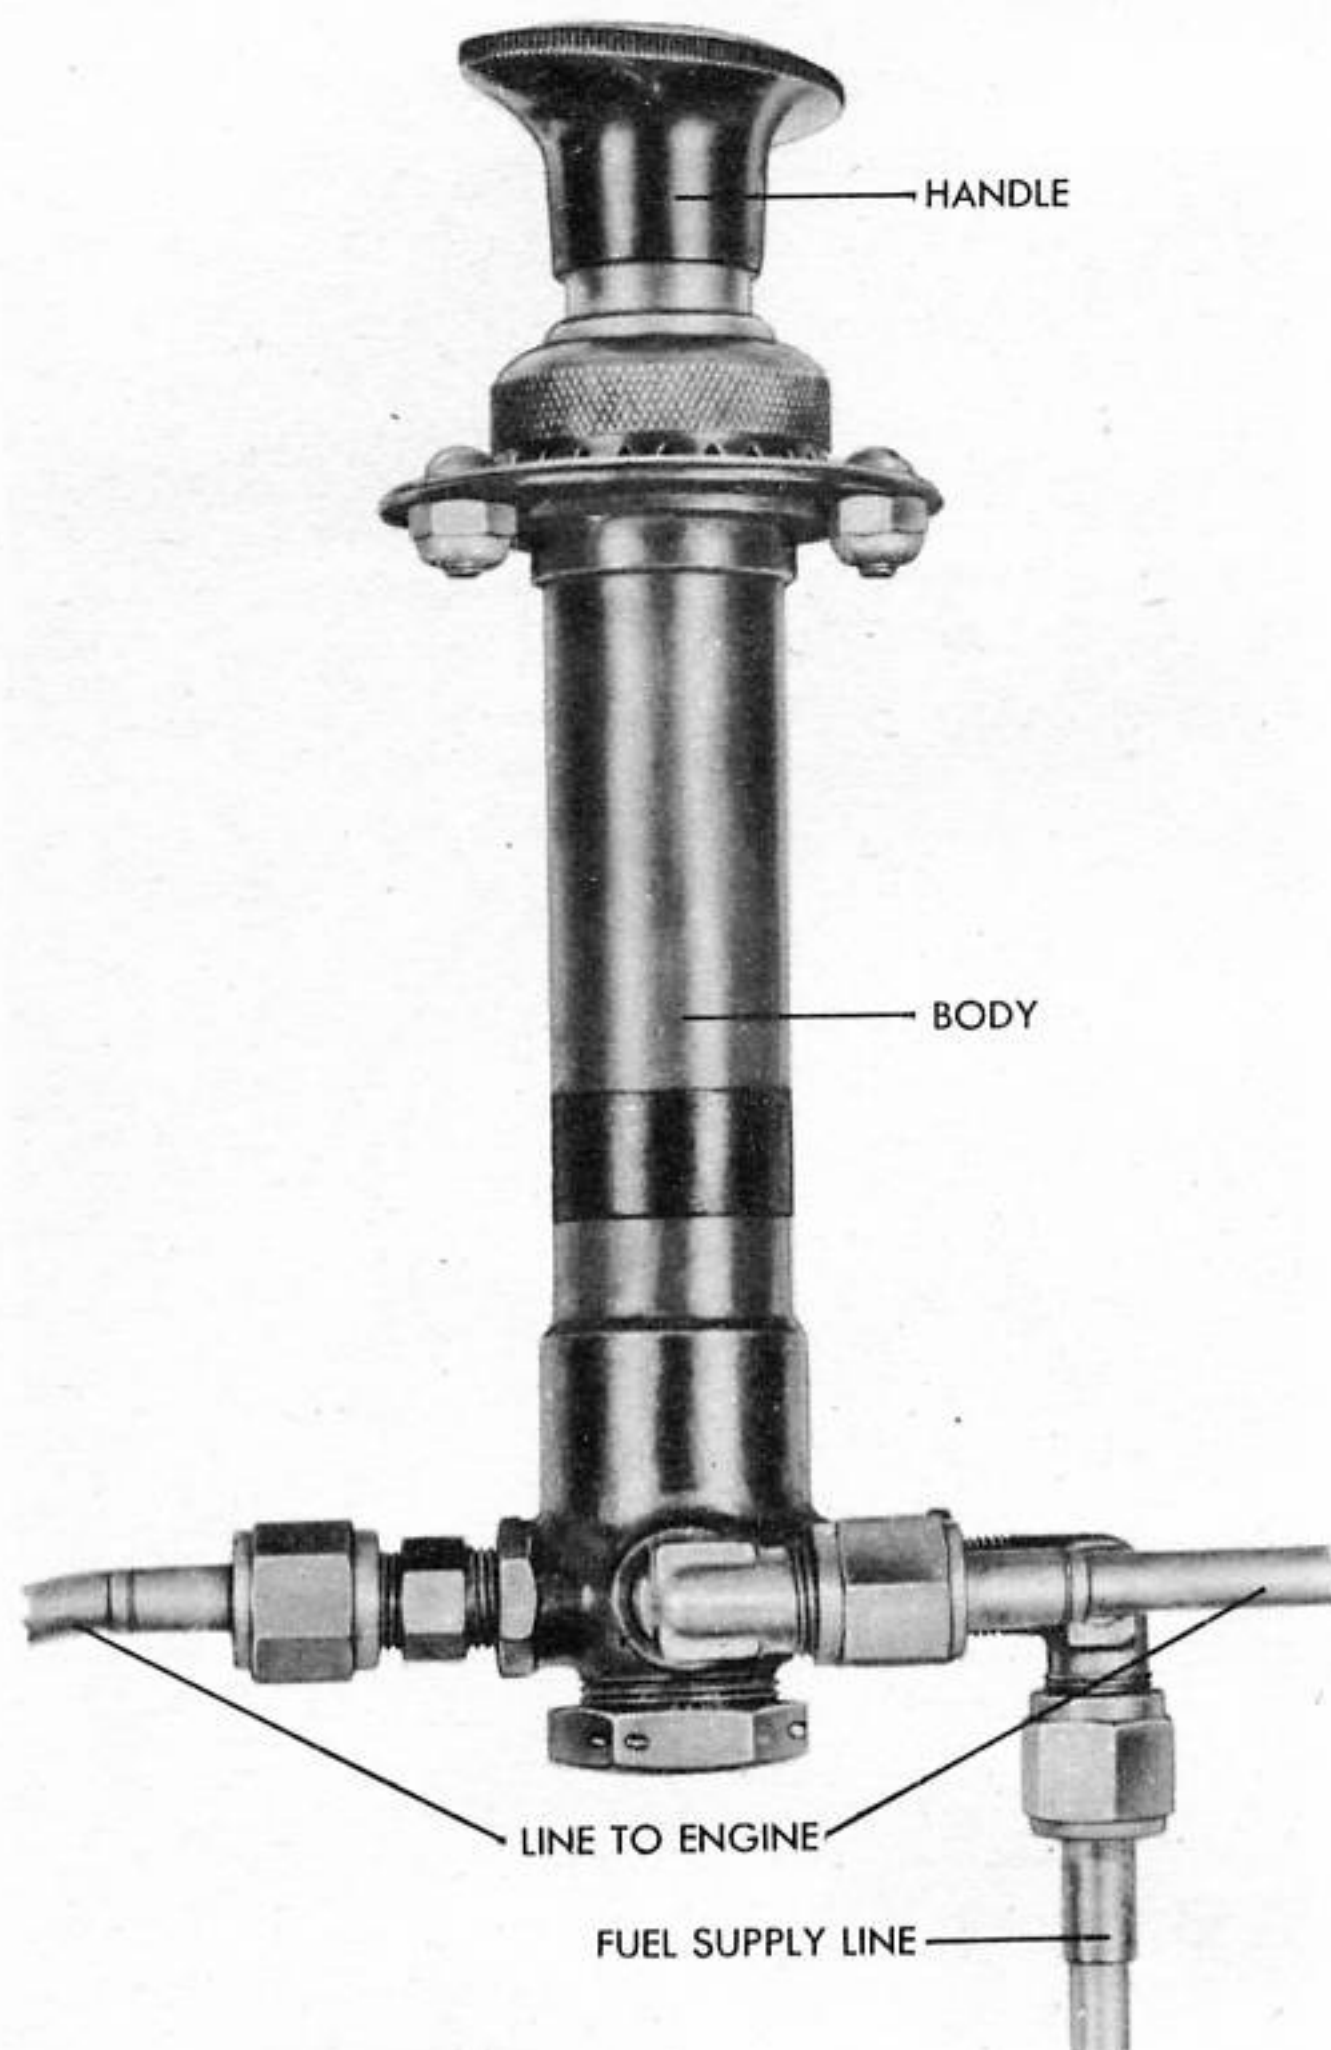

Figure 142 - PRIMER PUMP
(5) PRIMER PUMP. (See figure 142.) - A primer pump is located at the upper end of the fixed gun charging control panel on the right side of the pilot's cockpit, and is manually operated. Fuel supply for the primer is taken from the bottom of the left-hand wobble pump. Two lines extend from the primer. One line runs down each side of the fuselage, into the adjacent inner wing and thence through the nacelle and fire wall to the engine. (See figure 158.)